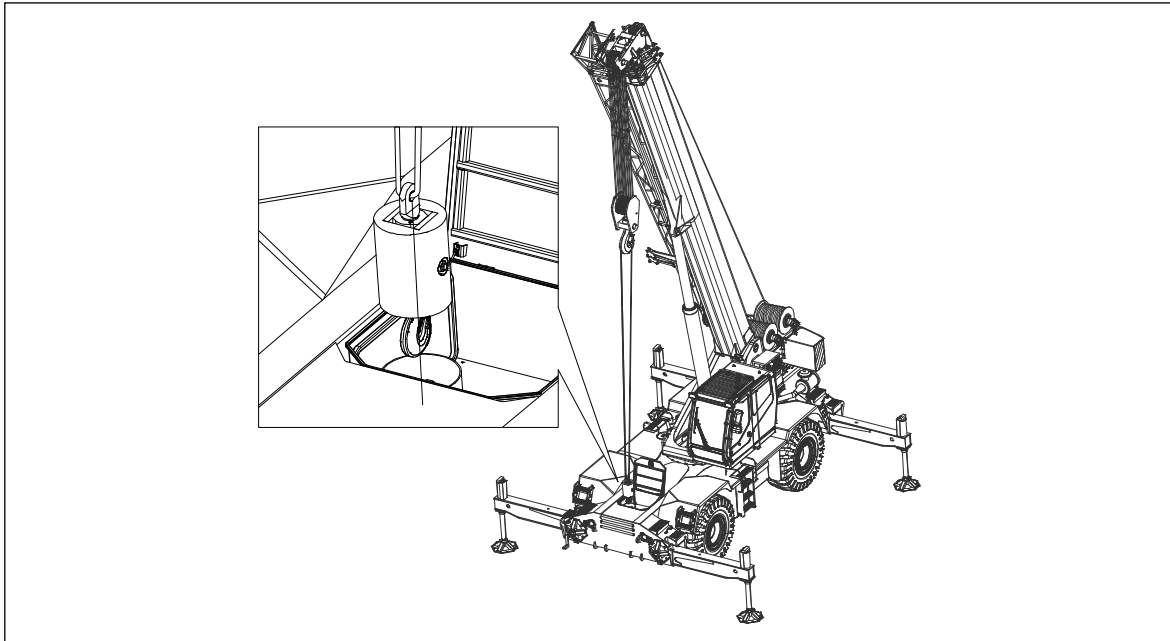

Figure 7-30 Take Out the Auxiliary Hook
- C. Take out the auxiliary hook from the hook holder before jib assembly. Refer to Figure 7-30.